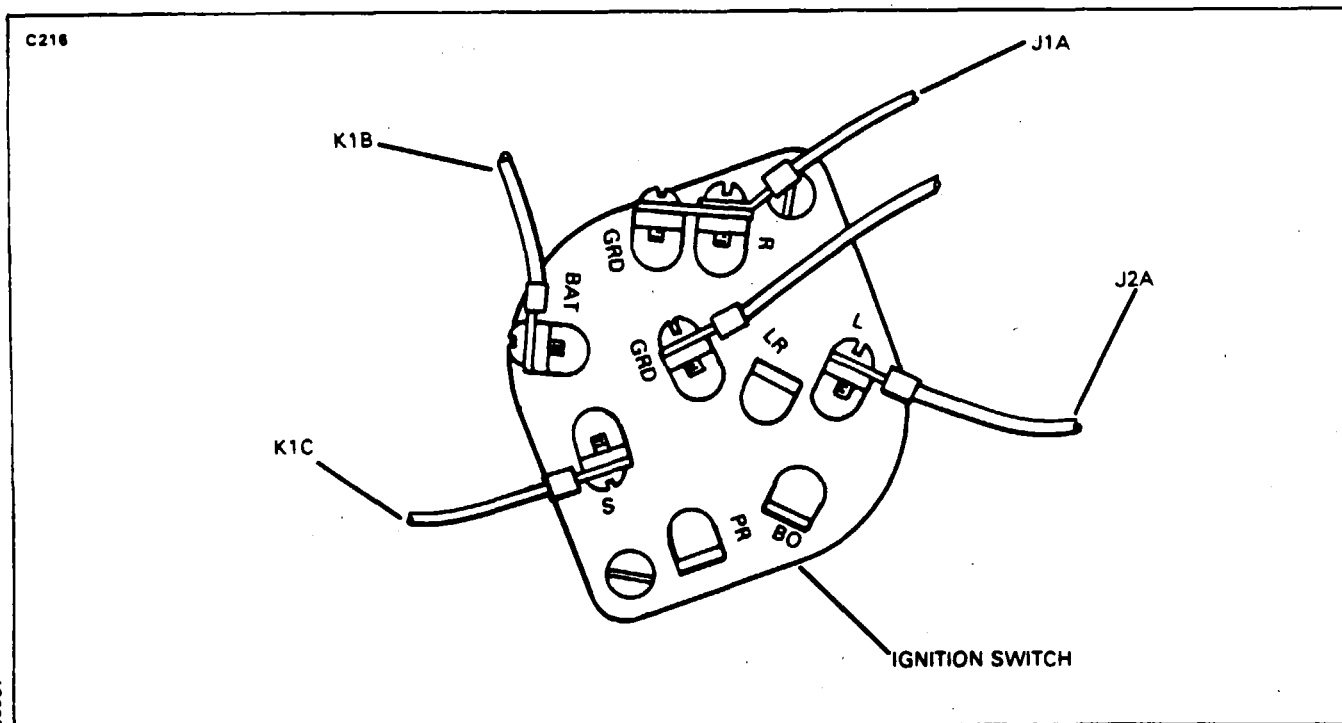

Figure 74-33. Ignition Switch Wire Positions
INSTALLATION OF IGNITION SWITCH. (Refer to Figure 74-33.)
1. Attach wires to switch as shown in Figure 74-33.